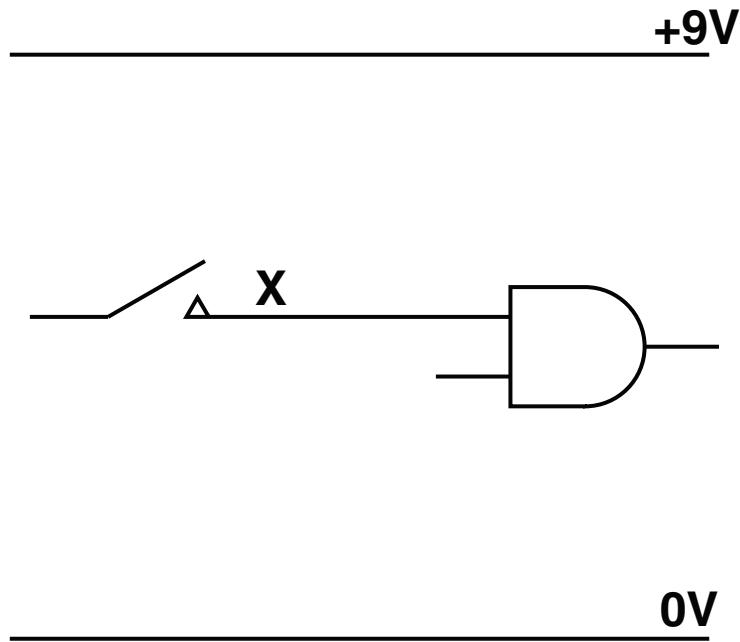

Fig. 16
- (a) (i) Complete Fig. 16 to show a switch arrangement that will produce a logic 1 signal at point X when the switch is pressed and a logic 0 signal when it is released.